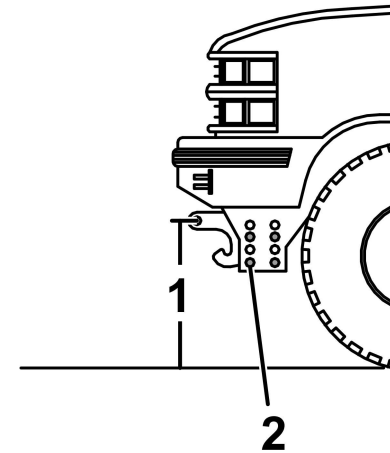

Figure 42
1. Measure the distance from the ground to the coupler spring-pin holes on the undercarriage pushbeam (Figure 42). The measurement should match the height listed for your plow in Specifications (page 28).
2. If the pushbeam is not at the correct height, remove the fasteners securing the pushbeam to the undercarriage (Figure 42).